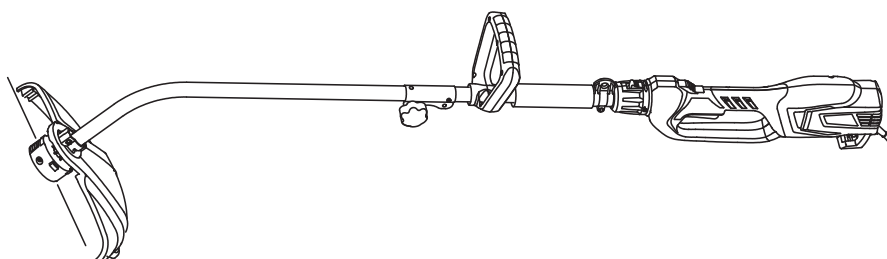

Fig. 14
4. Turn the pole 180° to desired position (Fig. 14).